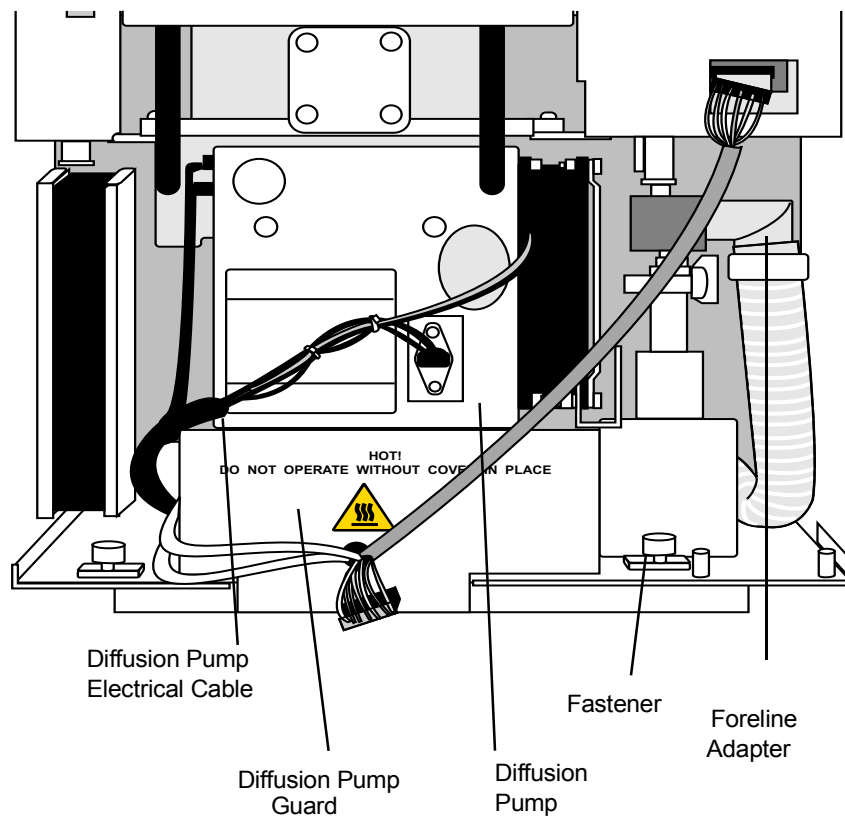

Figure 8-13. Front View of the GCQ Plus Showing the Diffusion Pump
4. Remove the diffusion pump guard, shown in Figure 8-13. If your instrument has an inlet valve, disconnect the evacuation solenoid wires from the vent control PCB.